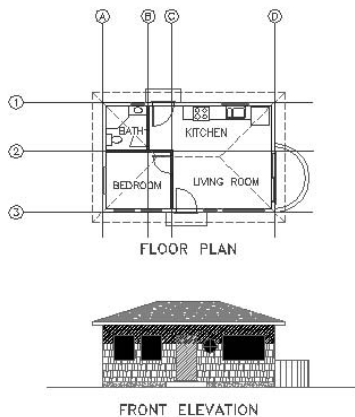

FIGURE 10.20: The Cabin10a drawing
12. Zoom to Extents, and then zoom out a little to get a view of the entire drawing with the grid completed (see Figure 10.20).